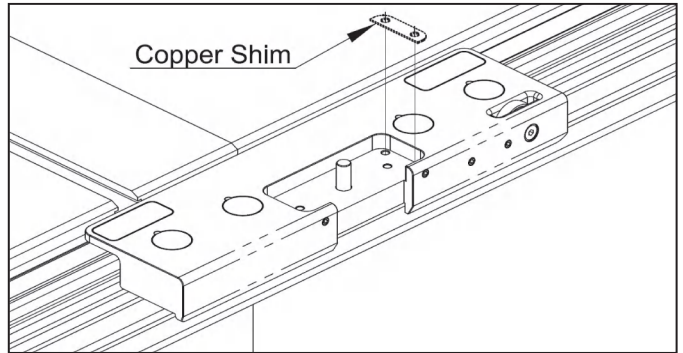

Fig. 7-2
- As shown in Fig. 7-2, place a copper shim (Item J) on either the left or right side of the slider groove to fine-tune the perpendicularity. Included are four shims, each with a thickness of 0.05mm, which can be stacked to achieve the desired adjustment. Each shim layer corrects the perpendicularity deviation of the fence by approximately 0.05mm.